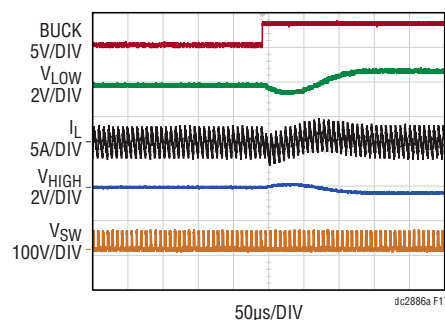

Figure 17. Boost to Buck Transition of the DC2886A Demo Board, $I_{LOW} = 0A$, V_{LOW} Clamped at 10V, V_{HIGH} Clamped at 40V
4. Monitor SETCUR, IMON and I_{LOW} or I_{HIGH} while adjusting the SETCUR voltage. Figure 17 shows an example.